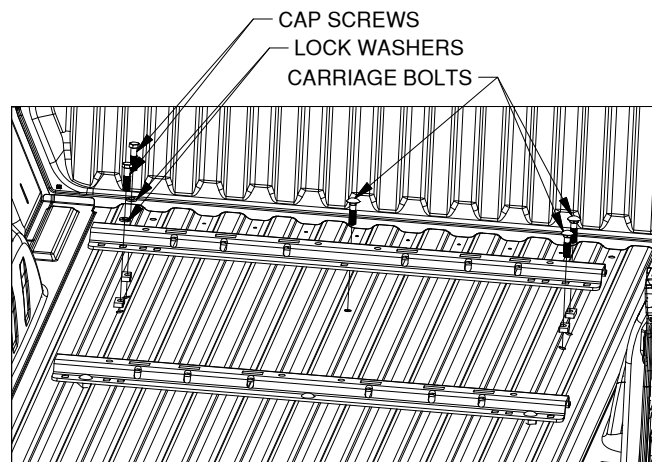

Figure D5: View looking into truck bed from rear of truck.
5. **Install forward mounting rail.** Reposition the forward mounting rail over the drilled 9/16" holes in the bed. Install a 1/2" x 2" cap screw with lock washer through the two holes on the driver side of the rail, and a 1/2" x 2" carriage bolt through the remaining three holes, as shown in Figure D5. Position the U-shaped spacers.